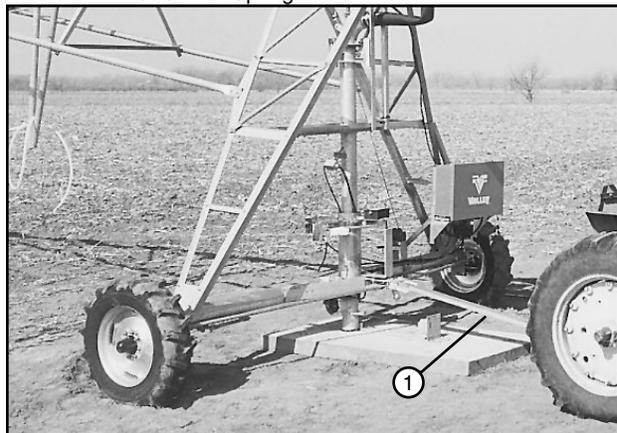

Figure 38-2 1. Tongue
6. Attach the tongue to the towing unit. See figure 38-2.